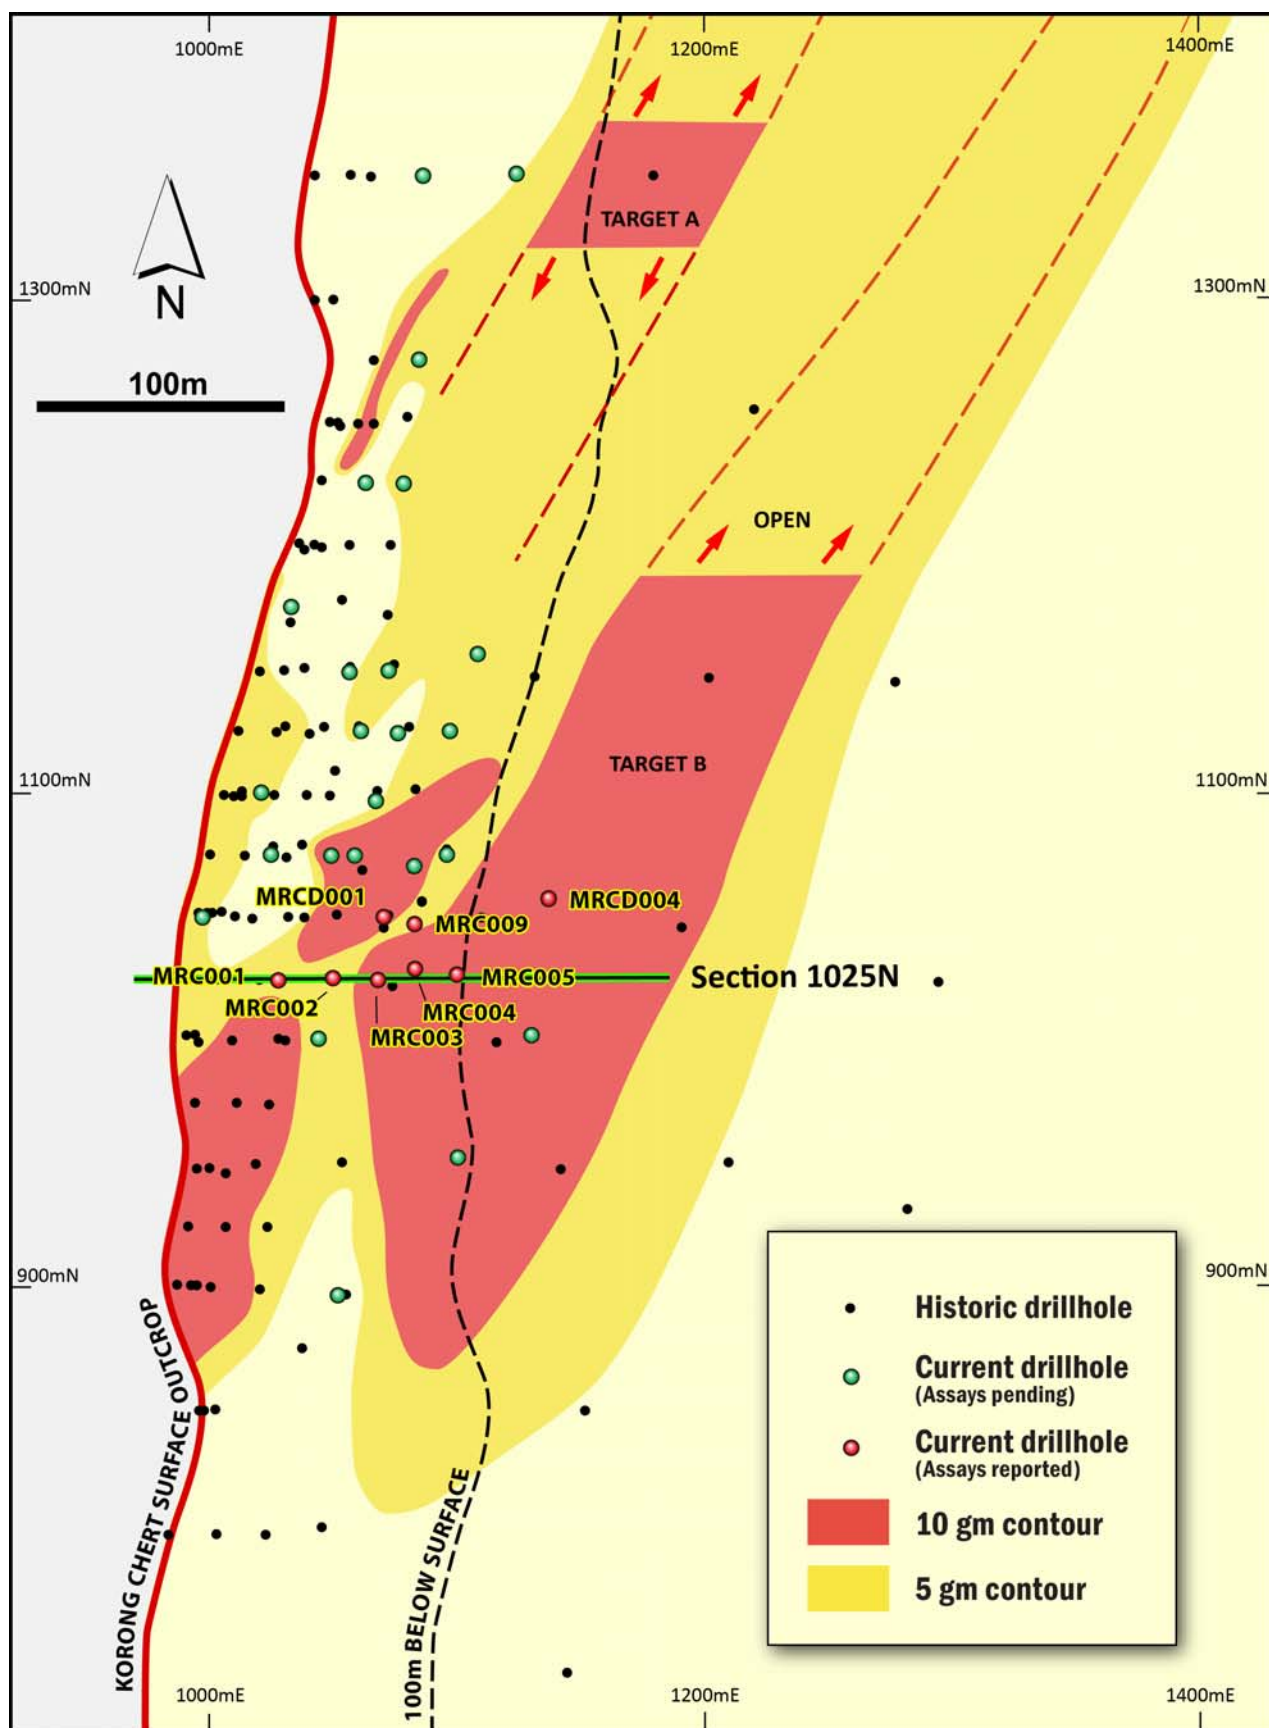

Figure 2 – Korong Prospect Plan: Projection of BIF hosted mineralisation
- The Korong Prospect mineralisation has been defined by drilling over a strike length of approximately 400m and has strong potential to be expanded. The mineralisation dips at approximately 30-40 degrees and consists of consistent broad mineralisation with a series of internal higher grade domains e.g. **MRC003: 6m @ 7.28g/t Au** (see Figures 2 and 3).